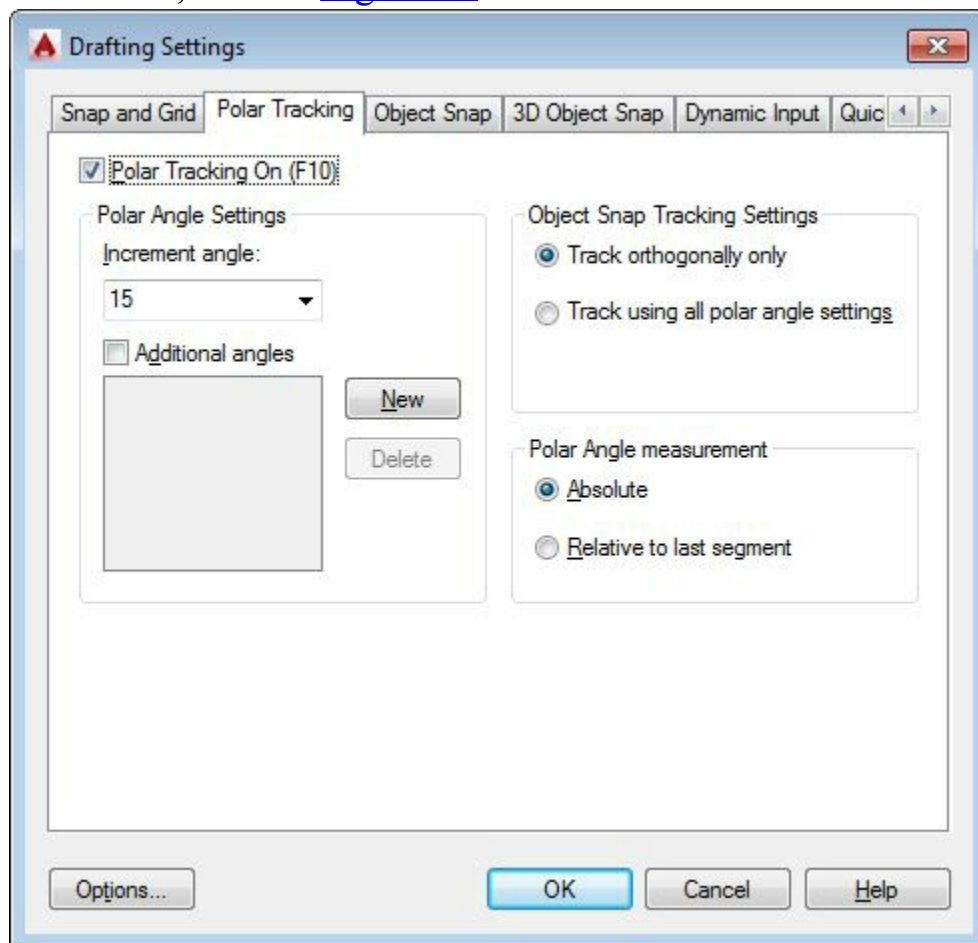

Figure-57. Drafting Settings dialog box with Polar Tracking tab
- To specify the settings related to **Polar Tracking**, click on the **Tracking Settings** button from the list of options. The **Drafting Settings** dialog box will be displayed with the **Polar Tracking** tab selected; refer to Figure-57.